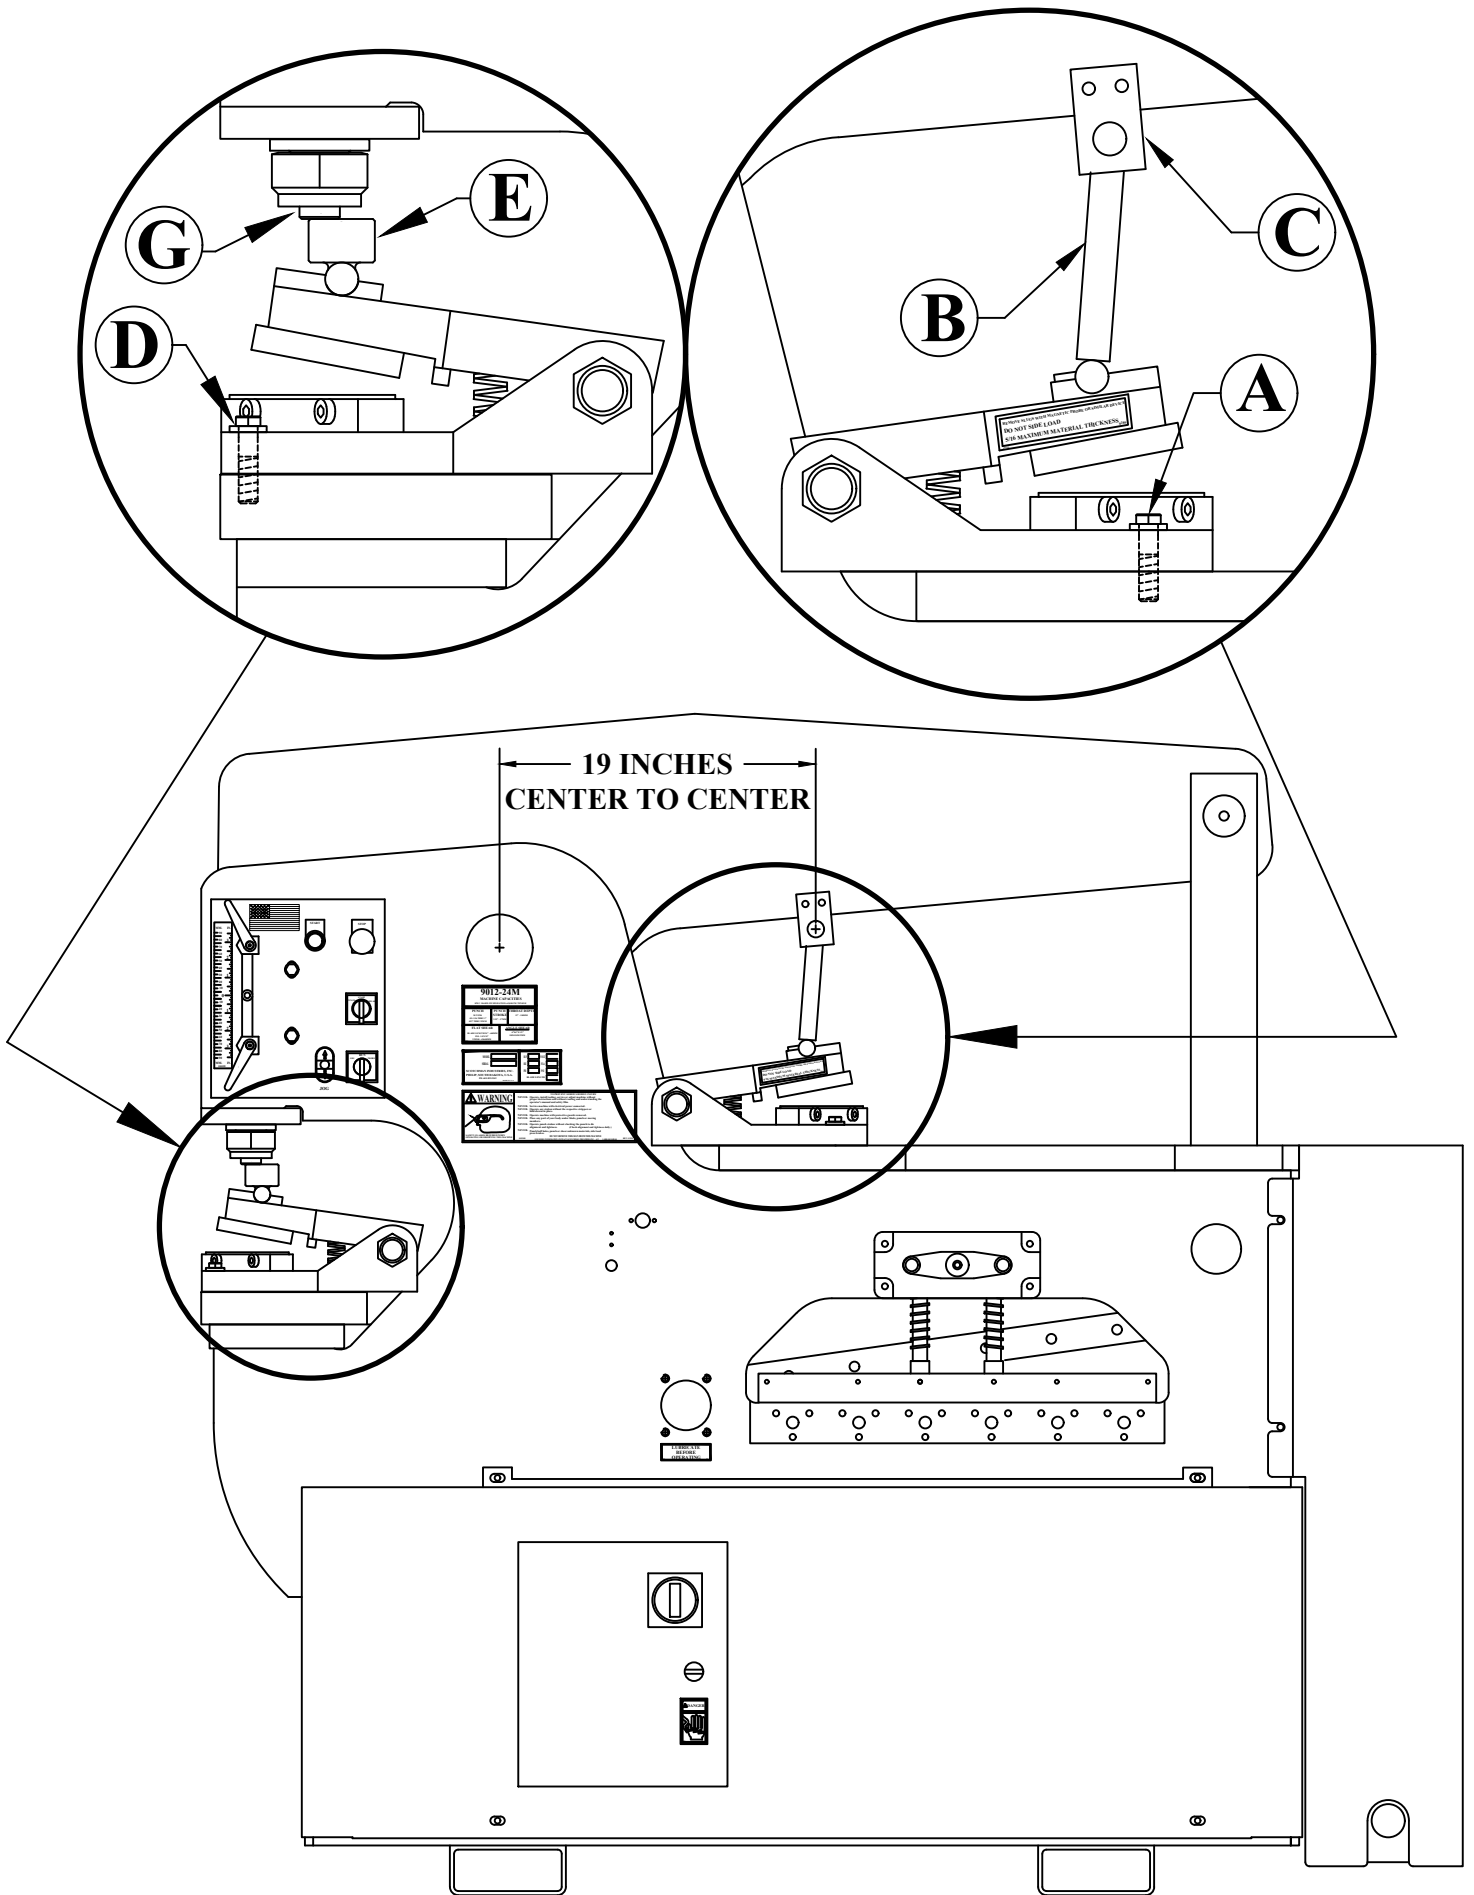

FIGURE 16
SEE FIGURE 16 ON THE FOLLOWING PAGE.
To install the notcher under the upper arm, the tool should be mounted as close to the frame as possible and anchored with the bolts and thick washers (A) provided. The pusher (B) and beam block (C) should be installed per the dimensions in FIGURE 16.
To mount the notcher in the punch station, first remove the die holder, stripper and punch. Mount the short punch pusher (G) with the standard jam nut. Mount the notcher to the punch table with the front of the notcher so its about even with the front edge of the punch table. SEE FIGURE 16. The notcher mounts to the punch table with the heavy washers and bolts (D) provided. The Punch Pusher (G) and the Notcher Pusher (E) should align as shown, with the punch pusher toward the front of the notcher pusher.